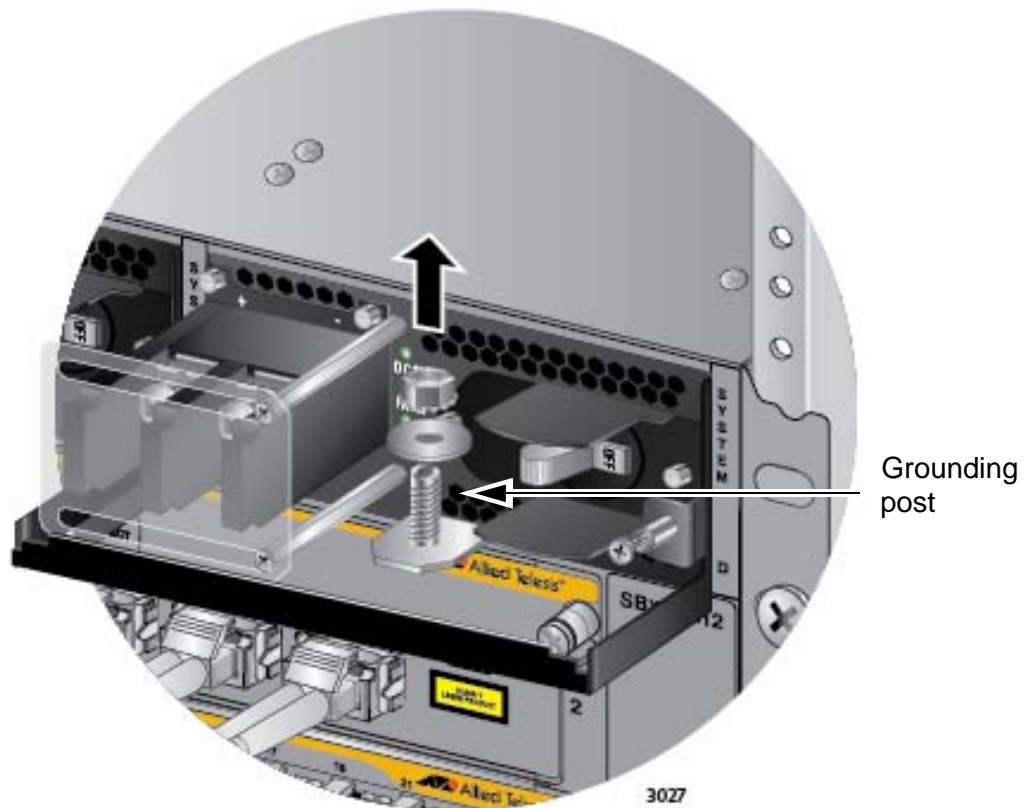

Figure 110. Removing the Nut and Washer from the Grounding Post
3. Use an 8 mm wrench to remove the grounding post nut and washer, shown in Figure 110, from the power supply.
2. Use an 8 mm wrench to remove the grounding post nut and washer, shown in Figure 110 on page 174, from the grounding post on the power supply.